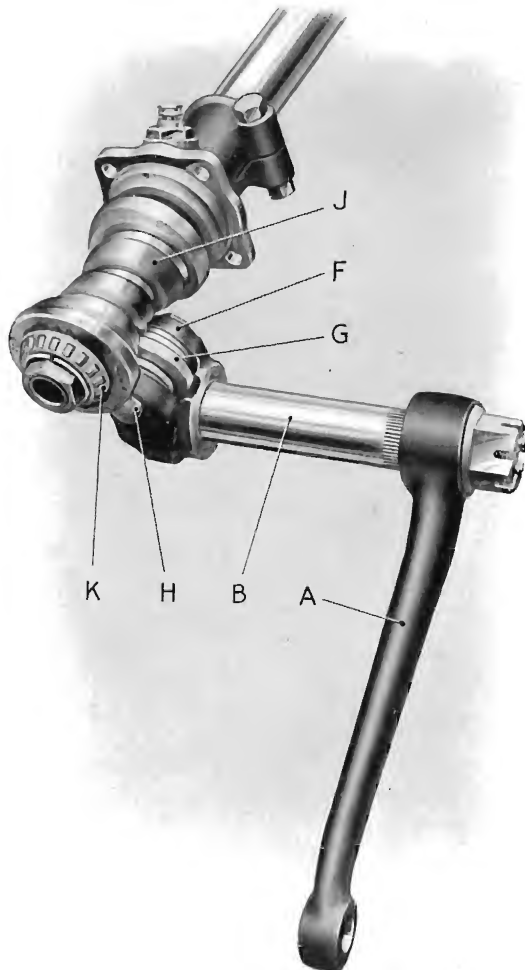

Fig. 2.
The cam (J), Fig. 2, is keyed on the shaft and secured by a large nut. When replacing ensure that the key is a good fit in both keyways and that the cam is a driving fit on the shaft. Tighten the nut and lock by burring over the thread in two places with a centre punch.
2. The arc described by the rocker-shaft (B), Fig. 2, should coincide with the